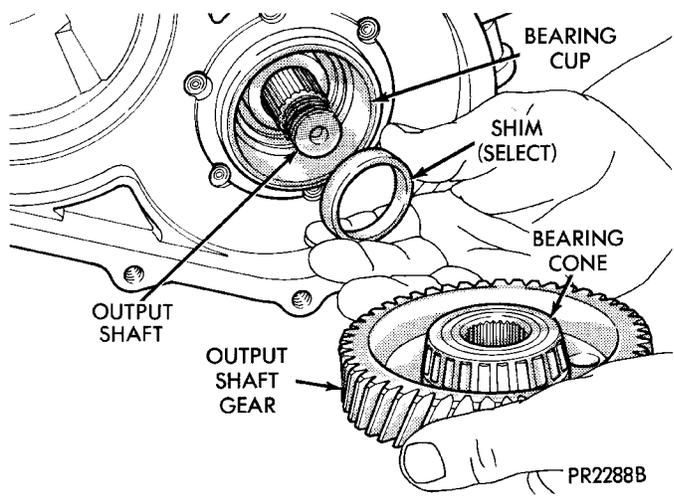

**Fig. 156 Remove Stirrup From Gear**
(4) Remove stirrup from output gear (Fig. 156).